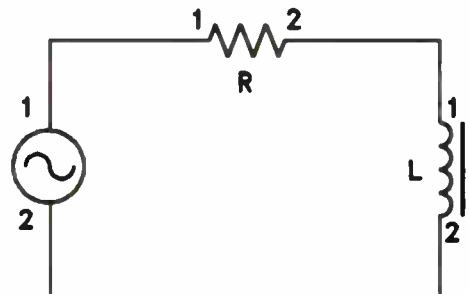
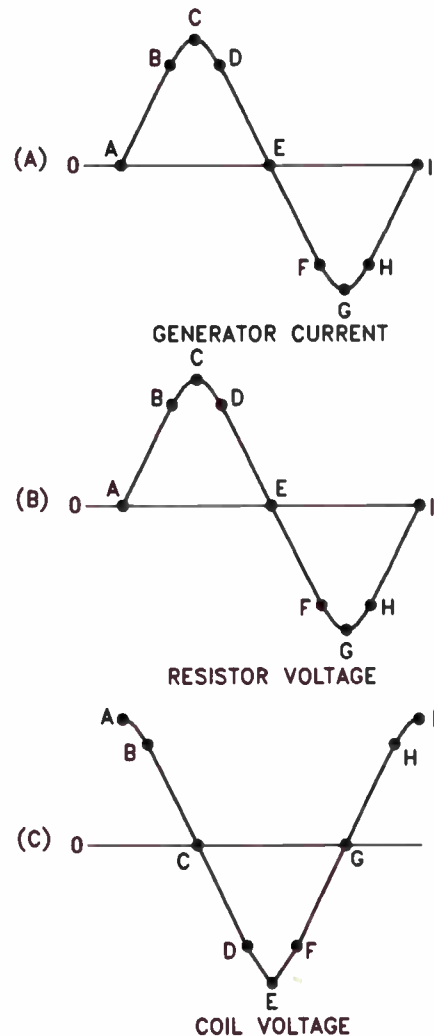

Figure 14. A coil and resistor connected in series across an ac source.
Figure 15. (A) A single current cycle, (B) the resulting voltage drop across the resistor, and (C) the voltage across the coil.
This is not true of circuits containing coils. Look at the circuit shown in Fig.14. Here we have a resistor and a coil connected in series, and the two are connected across an ac generator. Let's examine the ac current flowing through the circuit to see what happens to the voltage across
Figure 15(A) shows a single current cycle from the ac generator in Fig.14. The start of the sine-wave cycle is marked point A. At the instant the cycle begins at point A, the current is increasing at its maximum rate of change. This occurs at both the upslope and downslope of the ac waveform. The rate of change is greatest during gains or drops in current, and lower (but still changing) around the peaks. At the peaks, the rate of change briefly drops to zero as the direction of current flow reverses.
Consider the voltage across the resistor R . As the current increases from point A to point C, the voltage drop across the resistor increases at exactly the same rate as the current, generating the waveform shown in Fig.15(B). At point C, as the current reaches its maximum value, so will the voltage. As the current reverses direction and goes through the second half of its cycle, the voltage will follow exactly as shown in the waveform. Notice that at each instant in time throughout the entire cycle, the voltage across the resistor is exactly proportional to the current flowing through it. Here the current and voltage are in phase.
The voltage and current across the coil will not be in phase. This is because the voltage across the coil depends upon the rate of flux change. The maximum flux change occurs when the current is changing at its highest rate. Therefore, since the current is changing at a maximum rate at point A in Fig. 15(A), we will have a maximum voltage across the coil. As the current increases from point A to point C, the rate of change decreases until it reaches point C, where it does not change at all, at which point we will see the minimum amount of voltage across the coil.
The voltage across the coil continues to follow the curve shown in Fig. 15(C). The induced voltage decreases until, when the current reaches point C, the voltage has dropped to zero. Now as the current begins to decrease, a voltage is induced in the coil that tries to oppose that change. That is, the voltage builds up from C to a maximum value at E when the current is going through zero and changing at the maximum rate. As the current begins to flow in the opposite direction from E to G, the rate of change once again is decreasing, so the voltage falls from E to G as shown in Fig. 15(C). Finally, as the current falls from G to I, where it once again changes at its maximum rate, the coil voltage builds up from G to I, reaching a maximum value once again.
Compare Fig. 15(A) to Fig. 15(C). In Fig. 15(A), from point A to point I is one cycle. It also represents 360° , or a complete circle extended over time (shown graphically). From A to E is a
lead the current by some value between 0° and 90°, since the circuit is not purely inductive. Let's assume that the resistance in the circuit of Fig. 14 is equal to the inductive reactance of the coil. The voltage developed across the resistor is equal to IR , and the voltage developed across the coil is equal to IX_L (the circuit current times the reactance of the coil). Therefore, the voltage drop across the resistor is equal to the reactive voltage across the coil.
Figure 16. Vector diagrams showing the relationship between circuit current, generator voltage, coil voltage, and resistor voltage of the current shown in Figure 15. (A) The vectors for circuit current (E_R) and coil voltage (E_L). (B) The generator voltage vector (E_G).
The practical way to study how a coil behaves in an ac circuit is to imagine that the coil is made of a pure inductance with a resistor in series with it. This is essentially the type of circuit used in Fig.14. You should see in the figure that the current in the circuit lags behind the generator voltage. Where the resistance is equal to the inductive reactance, the phase difference is 45 degrees.